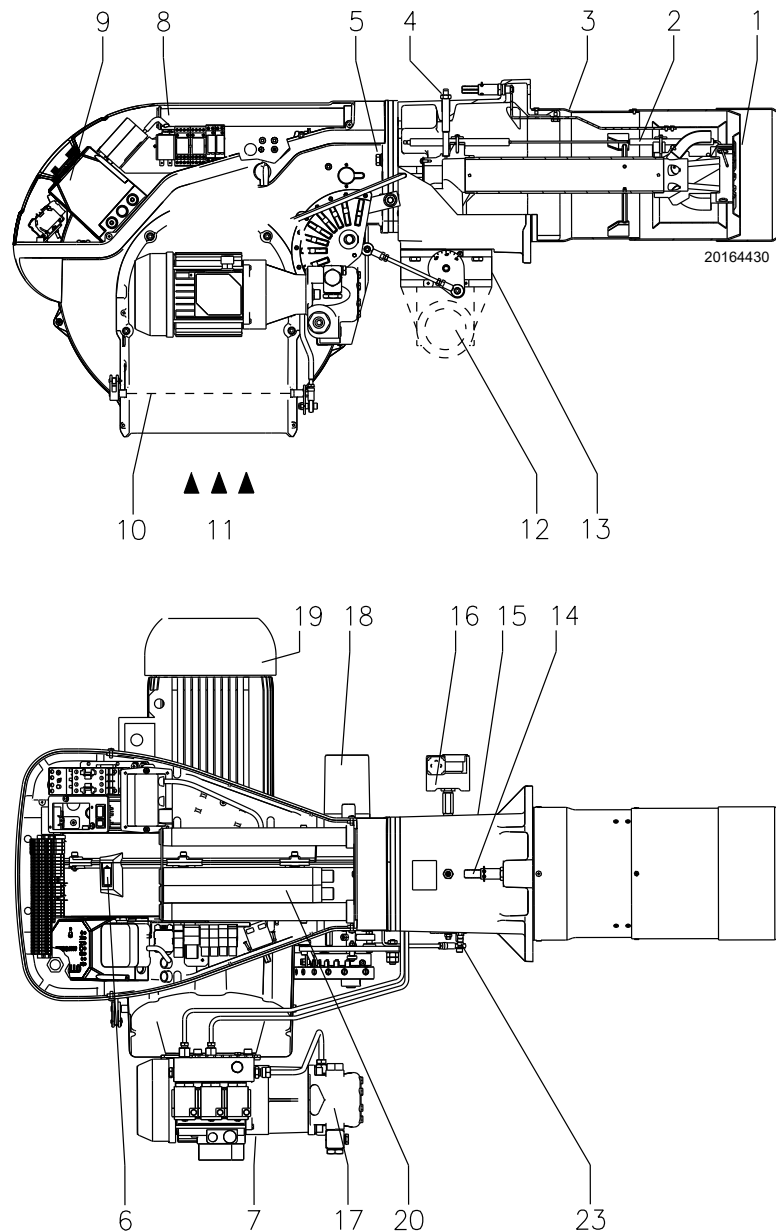

Fig. 5
- (1) Reference conditions: Ambient temperature 20°C - Gas temperature 15°C - Barometric pressure 1013 mbar - Altitude 0 m a.s.l.
(2) Pressure at test point 4)(Fig. 5) with zero pressure in combustion chamber and at maximum burner output.
(3) Sound pressure measured in manufacturer's combustion laboratory, with burner operating on test boiler and at maximum output.